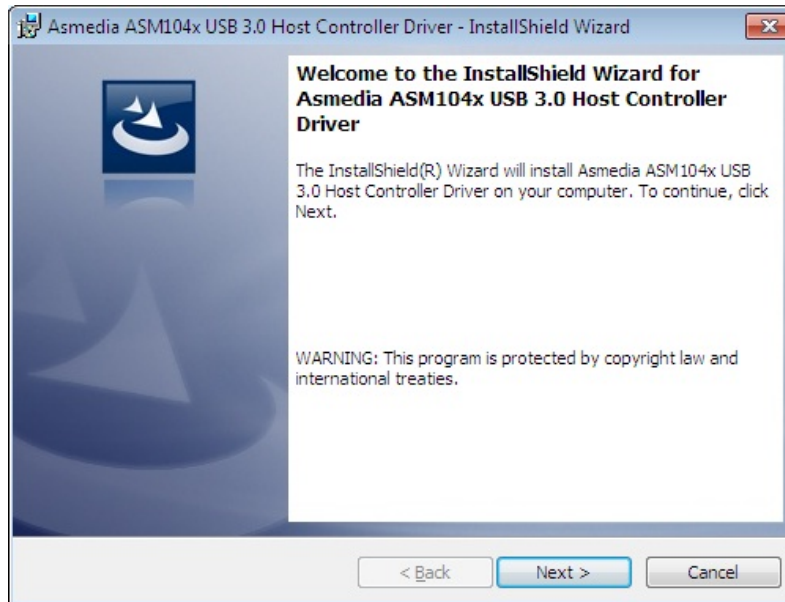

Figure 6-20: USB 3.0 Driver Welcome Screen
- Step 4:** The **Welcome Screen** in **Figure 6-20** appears.